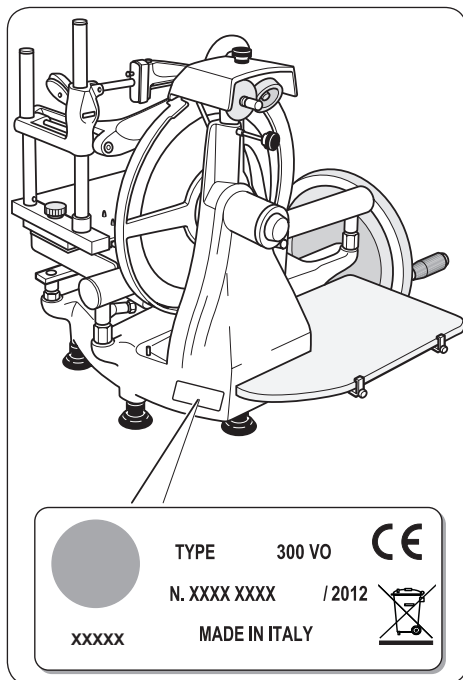

Fig. 1 - Rating plate
- The rating plate is positioned on the base of the slicer as shown in fig.1.